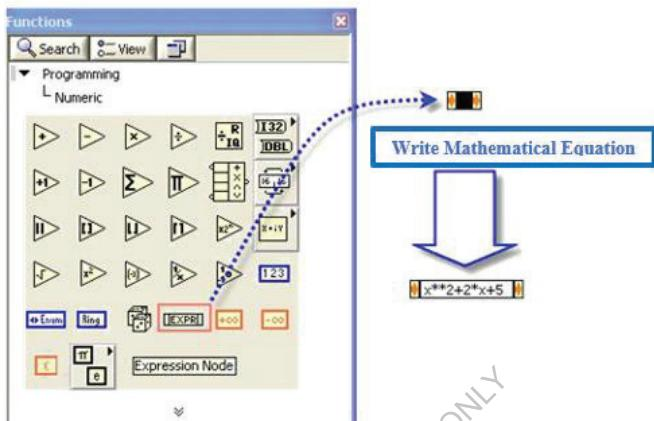

Figure 2.183: Insert Expression Node
**Expression Node** is listed from **Function Palette >> Programming >> Numeric**, as shown in figure 2.183.